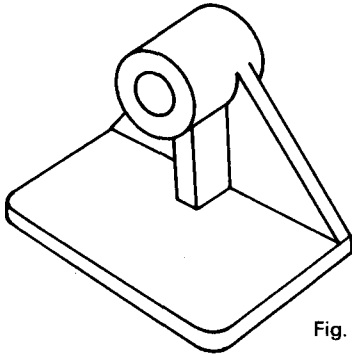

Fig. 3.75
7. Make a three-view drawing of the spindle support bracket shown in Fig. 3.75. It must be drawn in third-angle projection.